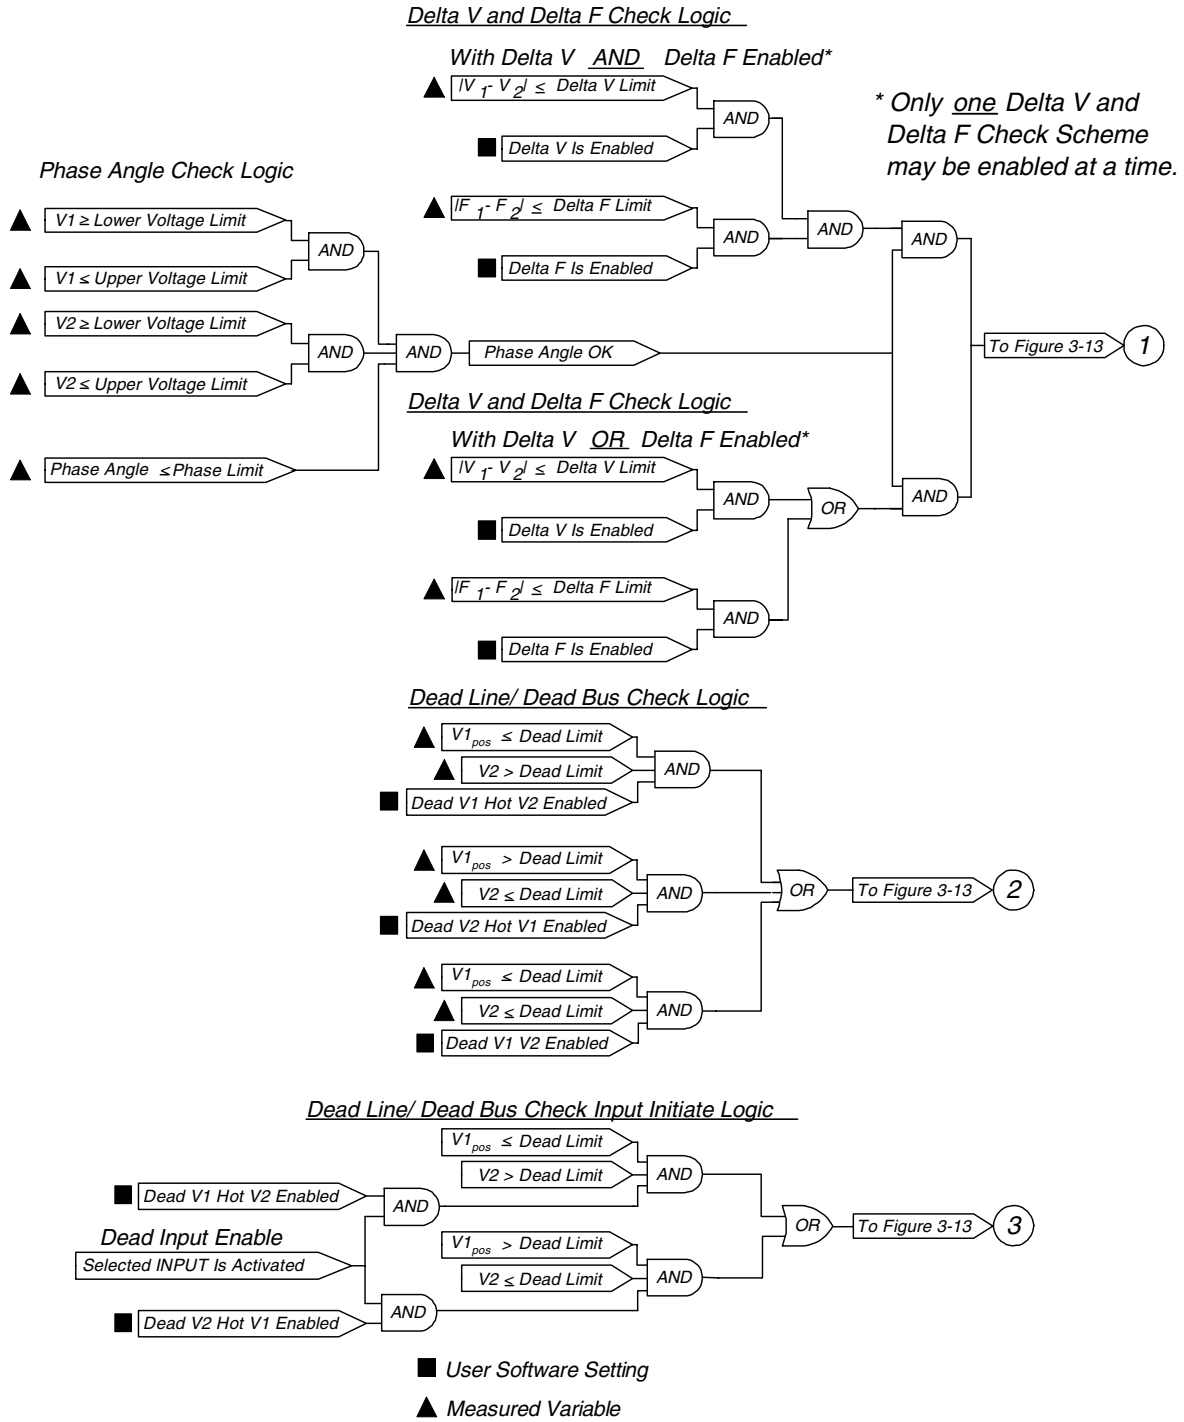

Figure 3-12 25 Function Logic Diagrams
Phase angle window is defined as twice the Phase Limit setting. For example, if the Phase Limit is set at 10 degrees, a phase angle window of 20 degrees exists between -10 (350) degrees and +10 degrees. The basic phase angle check is shown in Figures 3-12 and 3-13.
voltage check will compare the absolute difference between the selected sync phase voltage (V_1) and the measured DG voltage (V_2) with the Delta Volt limit setting. Likewise, the delta frequency measures the frequency difference between V_1 and V_2 voltage signals. The logic diagram of the above is shown in Figures 3-12 and 3-13.
The Dead Volt Limit defines the Hot/Dead voltage level used in deadline/dead bus closing schemes. When the measured V_2 voltage is equal to or below the Dead Volt Limit, V_2 is considered dead. When the measured V_2 is above the Dead Volt Limit, V_2 is considered hot. The opposite side of the breaker uses the positive sequence voltage measurement ($V_{1_{pos}}$) for 3-phase consideration in determining hot/dead detection. Different combinations of hot line/dead bus closings may be selected, depending on how the buses are referenced. Figure 3-12 illustrates enabling/disabling of the dead line/dead bus scheme through contact inputs.
The Dead V_1 /Hot V_2 , Dead V_2 /Hot V_1 , and Dead V_1 /Dead V_2 enable are software switches used to enable the dead line/dead bus logic. Further conditioning can be performed on the dead detection logic by selecting one or more input contacts (Dead Input Initiate) to control the enabled dead detection element. For example, if INPUT2 (I2) is selected under the Dead Input Initiate screen, and both the Dead V_1 and Dead V_2 elements are enabled, the dead check timer will start when INPUT2 is activated, and either V_1 Dead V_2 Hot or V_1 Hot V_2 Dead. This allows for external control of the desired dead closing scheme. Dead Input Initiate selections are common to all dead detection elements. If no inputs are selected under the Dead Input Initiate screen, and any dead element is enabled, the dead check timer will start immediately when the dead condition exists. Figures 3-12 and 3-13 illustrate enabling/disabling of the Dead Line/Dead Bus scheme through contact inputs.
Eventually, the Dead Line/Dead Bus check, Phase Angle check, Delta Volt and Delta Frequency checks all combine through their appropriate timers and are directed to the programmed 25 output relay. The overall logic of the Sync Check (25) function is illustrated in Figures 3-12 and 3-13.